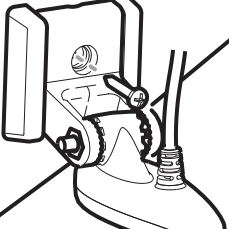

Figure 21
4. Snap the pivot back down. Install the #8 x 1" wood screw into the 4th hole to lock down the pivot arm (Figure 21). **Hand-tighten only!**